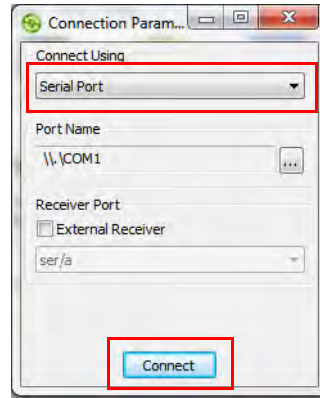

Figure 19: Connection Parameters Window
- c. In the **Connection Parameters** window (Figure 19), select **Serial Port** and the port name, and then click **Connect**.